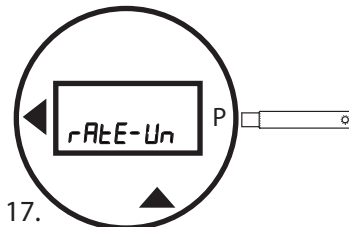

Figure 17.
- d. Pass the wand over the **P** to enter the lock code. The menu selection **rAtE-Un** will appear (Figure 17). This is the first item in the first menu level.